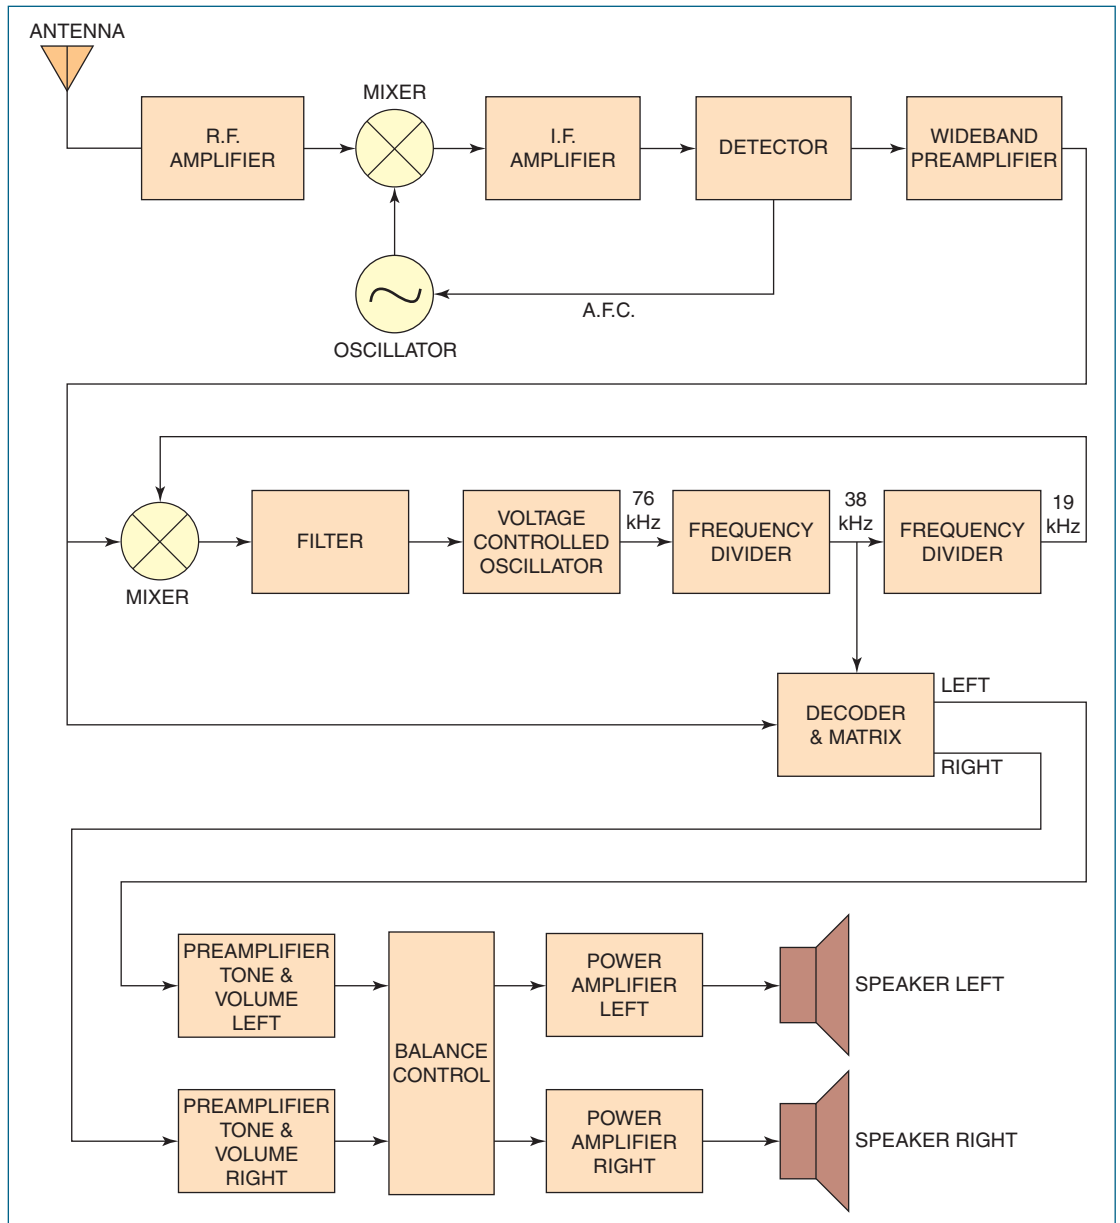

Figure 1-10 An example of a block diagram for a sound system.
- **Block diagrams** are used to show the flow of a working process (**Figure 1-10**).